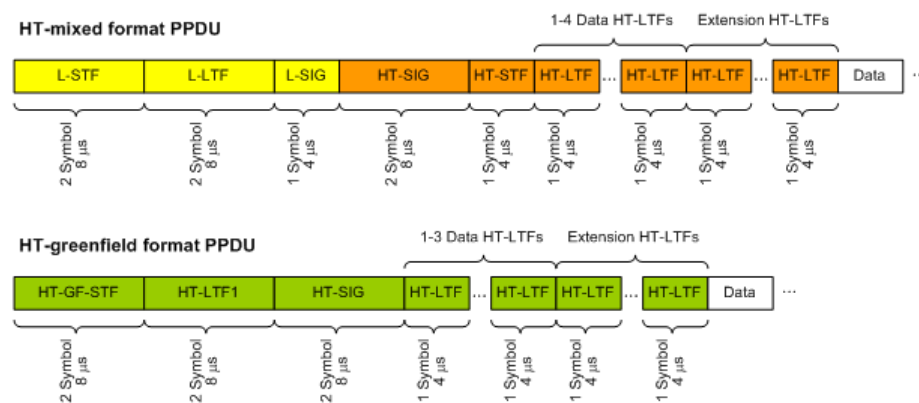

Figure 4-4: Training fields (TF) in the preamble of PPDUs in IEEE 802.11n standard
For each space-time stream, at least one training field (the (V)HT-LTF) is included in every PPDU preamble (see Figure 4-4). Each sender antenna transmits these training fields, which are known by the receive antenna. The effective channel can be calculated from the received (and known) (V)HT-LTF symbols of the preamble, without knowledge of the spatial mapping matrix or the physical channel. Thus, the effective channel can always be calculated.